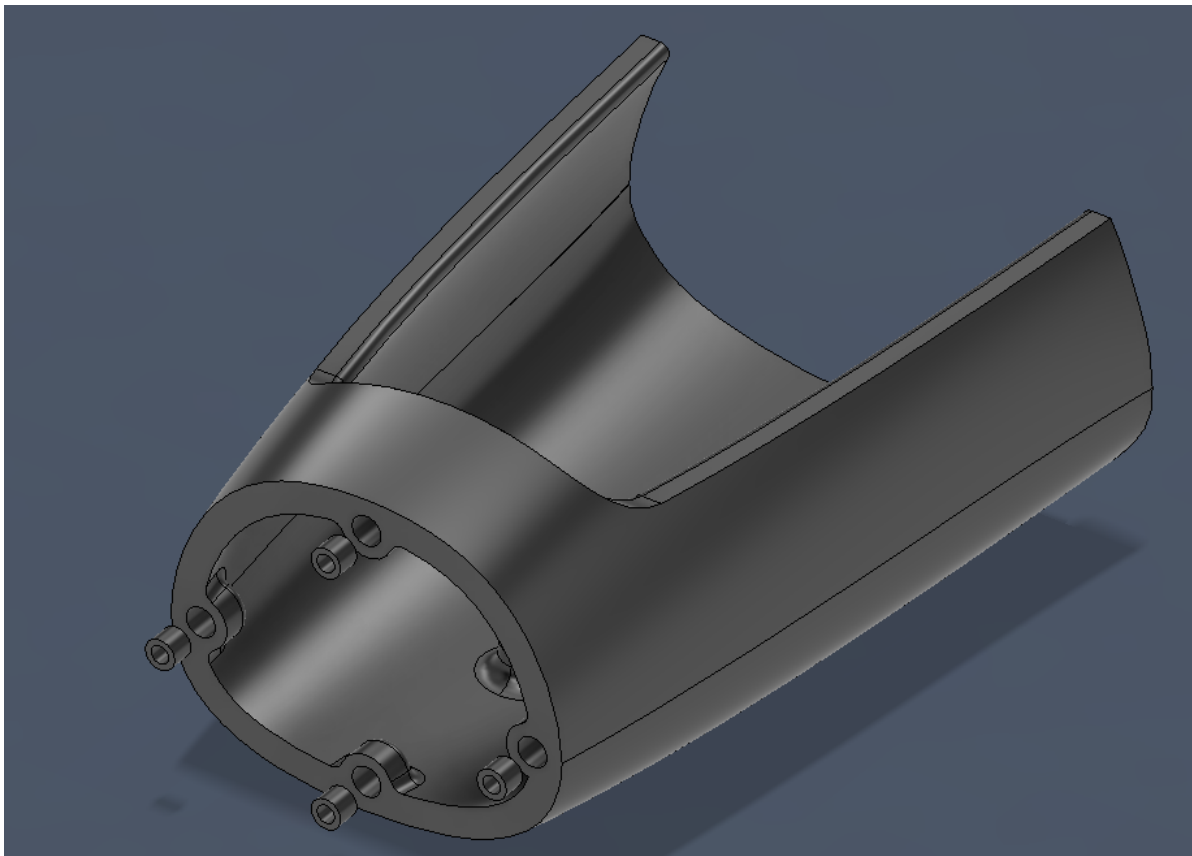

Figure 5: Fus (2) inserts
Using **Fus (2)** and the threaded inserts, as seen in Figure 5. Position each threaded insert over the designated hole in the Fus part, then use the heated soldering iron to gently press the insert into the plastic until it is fully seated and flush with the surface. Keep the insert straight while applying light, steady pressure to ensure proper alignment. Allow the part to cool completely so the insert sets securely before continuing with assembly.